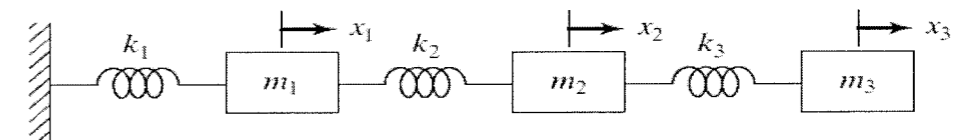

Fig.1
2. a) Find the influence coefficients of the system shown in Fig.1 ----- (4M)